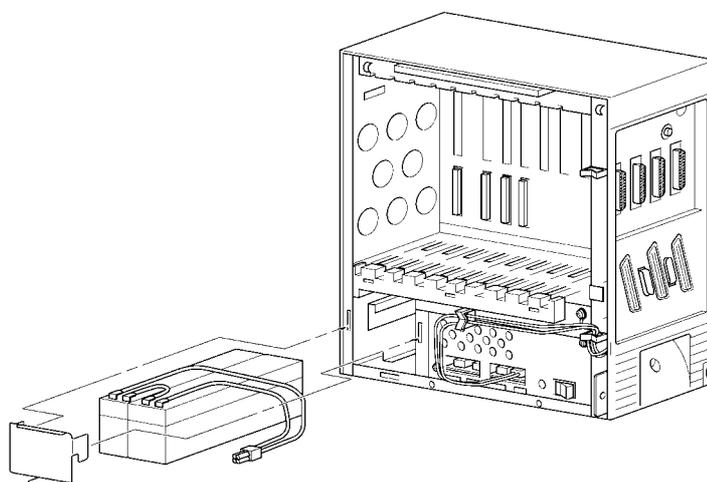

Figure 4-29 Placing the Batteries into the KSU
2. Install the batteries into the bottom space at the left side the KSU. Refer to *Figure 4-29 Placing the Batteries into the KSU*.
3. Install the battery cover as illustrated in *Figure 4-29 Placing the Batteries into the KSU*.